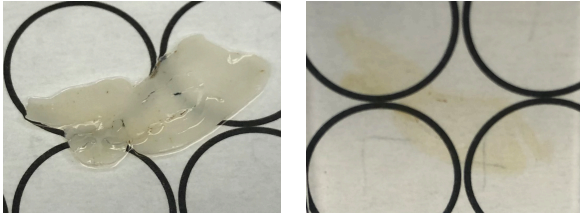

Fig. 5 Before and after mounting on ProLong™ Glass of 100 µm-thick rat brain section.
- e. After the overnight incubation, examine the cured specimen. There should be remarkable difference in transparency of tissue before and after mounting (Figure 5). ProLong™ Glass should be rigid around the specimen, eliminating the need for spacers.